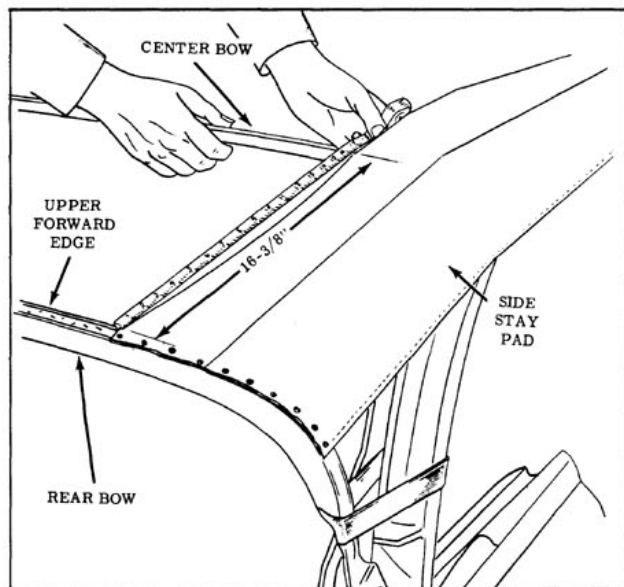

Fig. 16-135 Position of Rear Bow
3. Trim selvage end of side stay pads just forward of rear rolled edge of rear roof bow. (Fig. 16-135)